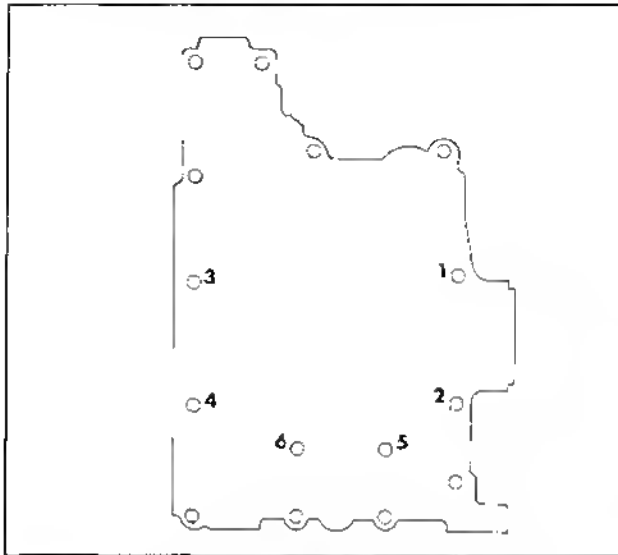

Figure 11-21. Crankcase Fastener Torque Sequence.
6. Torque fasteners #1 through #6 in the sequence shown to a preliminary value of **100 in. lb.** Torque the remaining fasteners to **100 in. lb.** in the most expedient sequence. Refer to Figure 11-21.
7. Torque fasteners #1 through #4 to **260 in. lb.** Torque fasteners #5 and #6 to **200 in. lb.** Torque the remaining fasteners to **200 in. lb.** in the most expedient sequence. Refer to Figure 11-21.